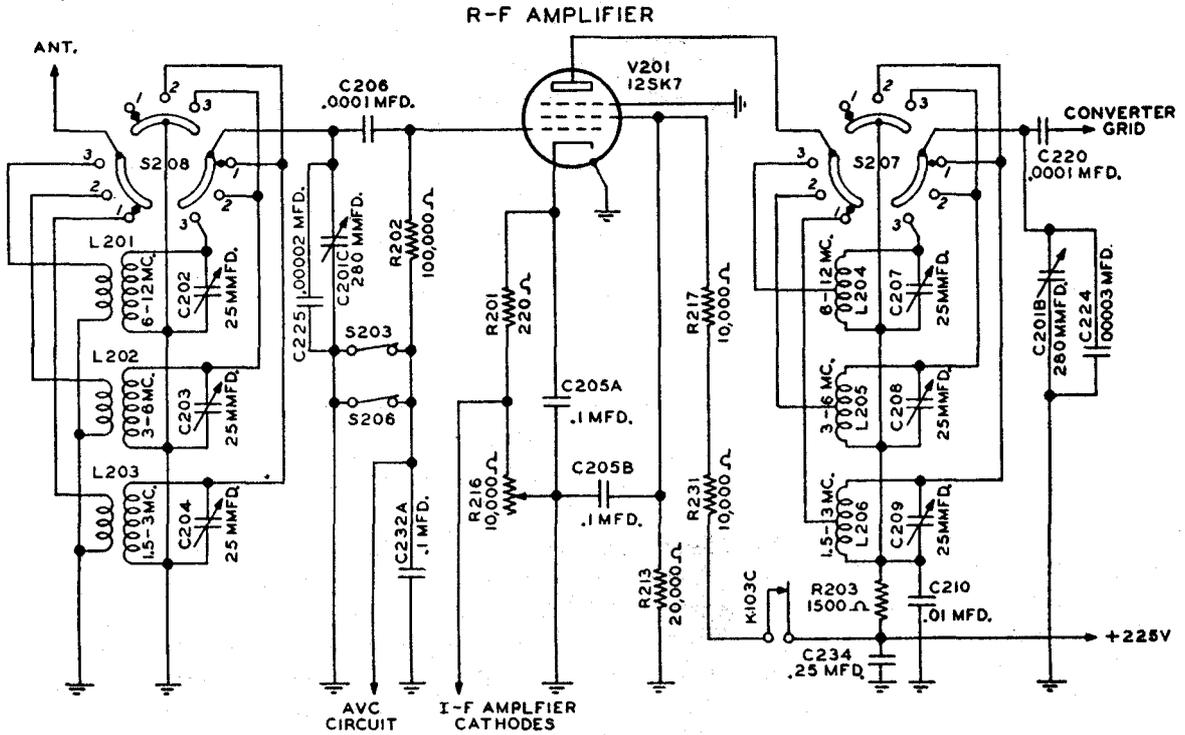

Fig. 5. R-F Amplifier Circuit (Dwg. 500 0139 00A)
2.3.4.1. Refer to Figure 5. The single stage of r-f amplification employs a Type 12SK7 triple grid amplifier tube. Switch section S208 is operated by the BAND SWITCH on the receiver panel and connects the proper antenna coupling circuit to the grid of V201 to cover the band of frequencies upon which reception is desired. Tuning slugs within inductors L201, L202 and L203 and trimmer capacitors, C202, C203, and C204 permit the aligning of the antenna coupling circuit to obtain the maximum transfer of energy from the antenna to the grid circuit of the r-f amplifier. Switch section S207 is also operated by the BAND SWITCH and selects the proper plate tank circuit for V201 to cover the desired band of frequencies. The grid and plate tank circuits of V201 are tuned by capacitor sections C201C and C201B, respectively. Capacitor C201 is operated by the TUNING control. The gain of this stage is controlled by varying the cathode resistance with potentiometer R216. The AVC voltage is applied to the grid of V201 when the MOD./CW switch, S203, is in the MOD. position, and the R.F. GAIN control is fully advanced so that switch S206 is open. But when CW reception has been selected by the operation of switch S203, the AVC circuit is rendered inoperative by grounding the lower end of the grid resistor, R202. Plate voltage is supplied to V201 through the series resistor, R203, the plate inductor and the contacts of switch, S207. Screen voltage for the r-f amplifier is